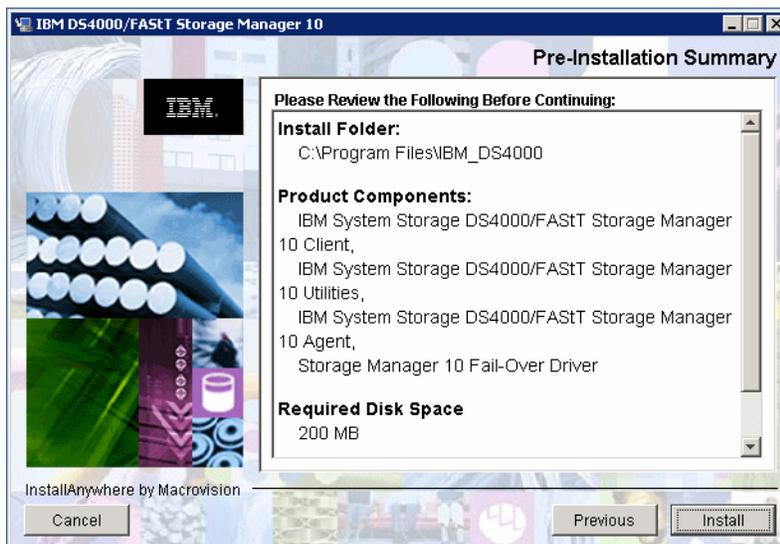

Figure 5-4 *InstallAnywhere: Pre-Installation window*
- Finally, you are presented with the Pre-Installation Summary window to verify that you have selected the correct installation options. Click the **Install** button and the installation process starts (Figure 5-4).